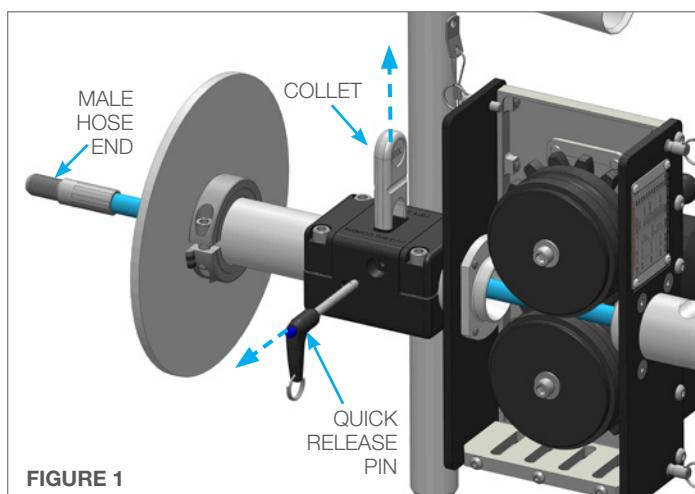
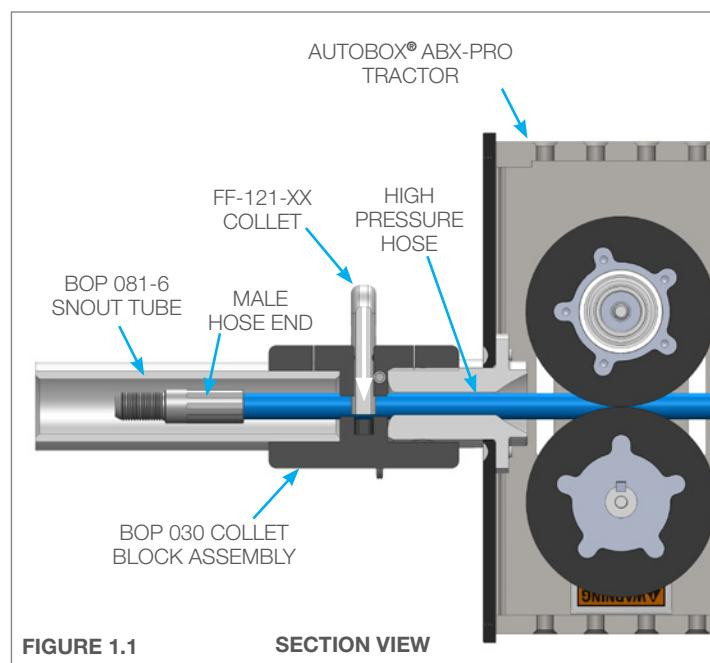

FIGURE 1
FIGURE 1.1
1. Slide the Female Positioner Arm onto the Male Positioner Arm. (**Figure 1**) Line up the incremental holes and push the Quick Release Pin through both positioner arms. (**Figure 1.1**)
- Once the appropriate Collet size for the hose diameter is selected, pull the Quick Release Pin and remove the Collet. Feed the Male Hose End through the AUTOBOX® ABX-PRO TRACTOR, BOP 030 Collet Block, and BOP 081-6 Snout Tube. (**Figure 1**) Replace the Collet and Quick Release Pin. Pull back on the hose to ensure the Male Hose End does not back out past the Collet. (**Figure 1.1**)
1. Open the back cover of the ABX-PRO Tractor by pulling the top two Quick Release Pins in the outward direction. (**Figure 1**)
1. Choose an alternate size or replacement set of Poly Rollers by using the reference chart in the section below to select the proper sizing. Slide the Poly Rollers onto the Hubs. Then fasten the Hub Outer Plates and Roller Washers onto the Spline Load Rollers with the two 5/16" socket head cap screws. (**Figure 1**)